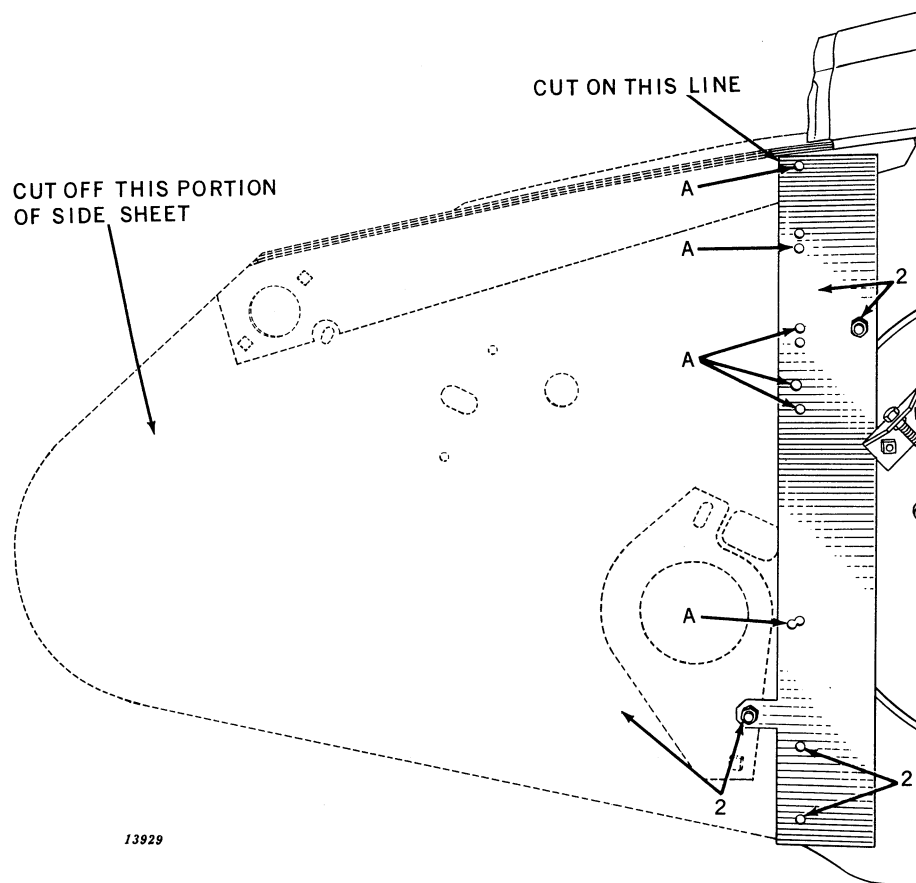

Figure 3
2. (Figure 3) Attach template to left hand separator side sheet as shown: Drill holes "A," in side sheet as indicated on template; cut off front portion of left hand side sheet.